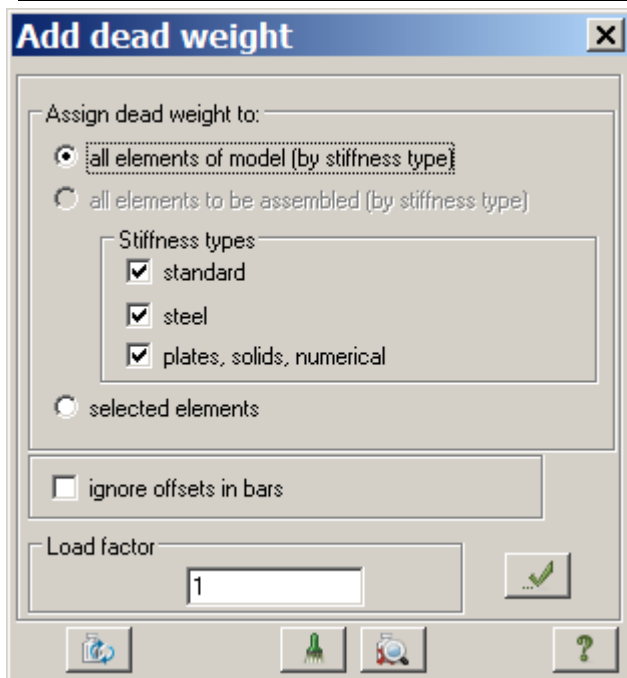

Figure 4.22 Add dead weight dialog box
- ⇒ In the **Add dead weight** dialog box (see Fig.4.22), click **All elements** and specify **Load factor** as equal to 1. Then click **Apply**  (dead weight is automatically applied to elements).